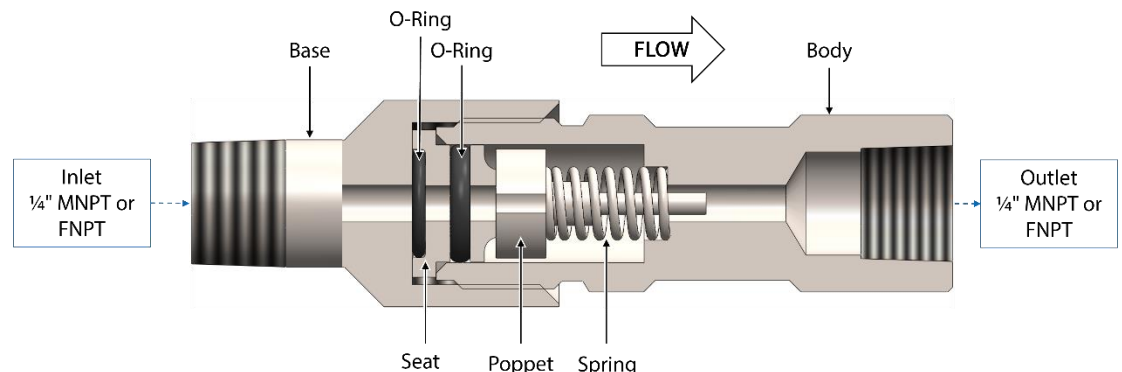

Figure 1: Welker® CV-S Check Valve Diagram
3. Install the inlet in the upstream direction (see *Flow direction* in *Figure 1*).
3. Unscrew the base from the body (*Figure 1*).